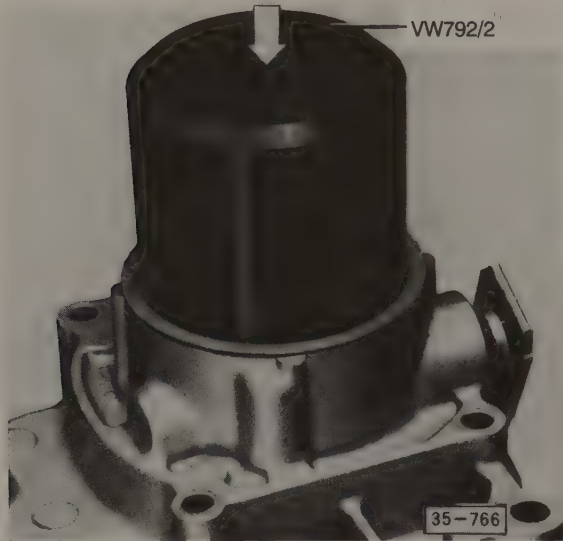

Fig. 6-13. New end cap being installed.
9. Install a new end cap as shown in Fig. 6-13. Use Volkswagen special tool no. VW 792/2 or equivalent to install the cap evenly.